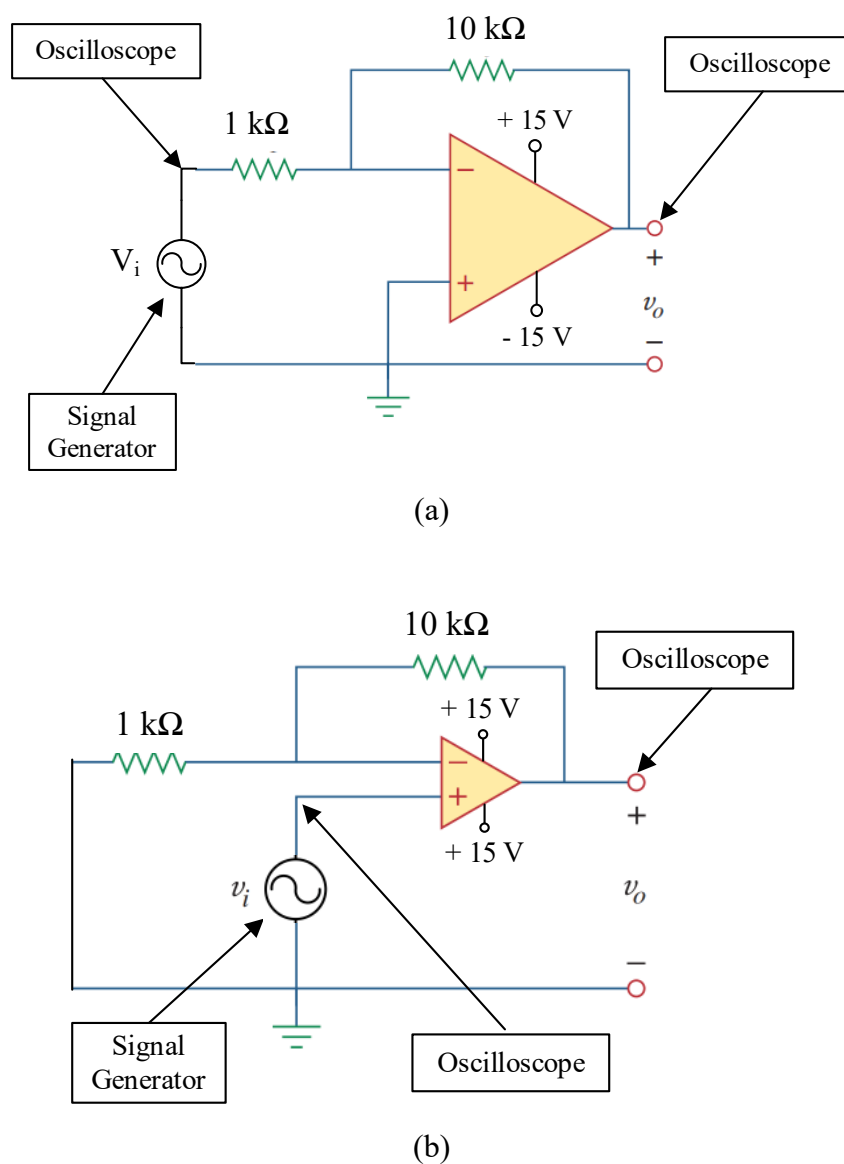

Fig. 8.3. Circuit diagram for implementing (a) inverting and (b) non-inverting amplifier circuit.
1. Connect the circuit according to Fig. 8.3 (a).
4. Again, connect the circuit according to Fig. 8.3 (b).